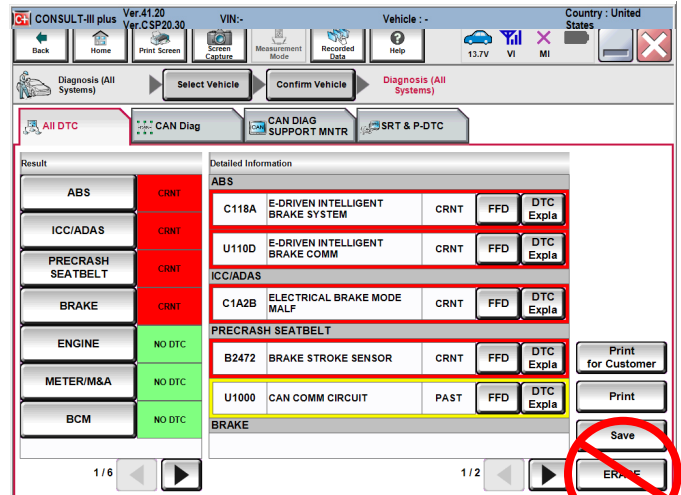

Figure 29
44. Once the screen in Figure 29 appears: